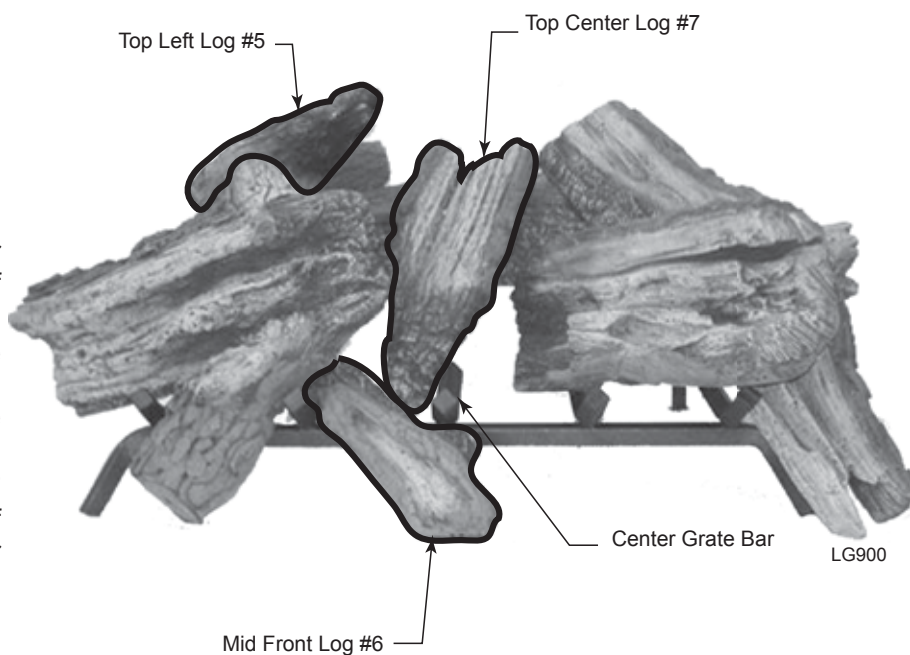

Figure 105 -
6. Place Top Left Log #5 behind rear log #1 on the notch on rear left of grate stand. *Figure 105*
7. Place Mid Front Log #6 on grate between center and middle left grate bars. Fit notch on back of log on the cross grate bar. *Figure 105*
8. Place wide end of Top Center Log #7 on rear log #1. Rest narrow end of top center log #7 to the left of center grate bar barely touching the mid log #6. *Figure 105*